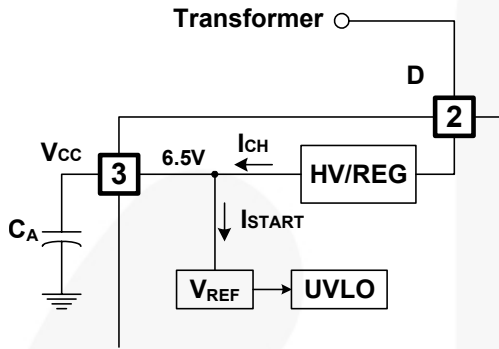
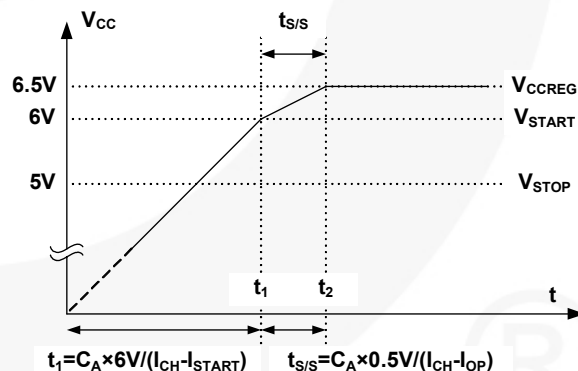

Figure 15. Startup Block
Figure 20. Soft-Start Function
**1. Startup and  $V_{CC}$  Regulation:** At startup, an internal high-voltage current source supplies the internal bias and charges the external capacitor ( $C_A$ ) connected to the  $V_{CC}$  pin, as illustrated in Figure 15. An internal high-voltage regulator (HV/REG) located between the D and  $V_{CC}$  pins regulates the  $V_{CC}$  to be 6.5V and supplies operating current. Therefore, FSQ500L needs no auxiliary bias winding.
**4. Soft-Start:** The soft-start time is tuned by an external  $V_{CC}$  capacitor ( $C_A$ ), which increases PWM comparator non-inverting input voltage together with the senseFET current slowly after it starts up. Before  $V_{CC}$  reaches  $V_{START}$ ,  $C_A$  is charged by the current  $I_{CH-ISTART}$ , where  $I_{CH}$  and  $I_{START}$  are described in Figure 15. After  $V_{CC}$  reaches  $V_{START}$ , all internal blocks are activated, so that the current consuming inside IC becomes  $I_{OP}$ . Therefore,  $C_A$  is charged by the current  $I_{CH-IOP}$ , which makes the increasing slope of  $V_{CC}$  become sluggish.  $V_{CC}$  is shifted by 6.0V negatively (it is performed in soft-start block in Figure 2), and then  $V_{CC} - 6.0V$  is an input of one of the input terminals of the PWM comparator. The drain current follows  $V_{CC} - 6.0V$  instead of the  $V_{FB}^*$  because of the low-dominant feature of the PWM comparator. The soft-start time can be made long or short by selecting  $C_A$ , as described in Figure 20. During  $t_{S/S}$ ,  $I_{DELAY}$  is disabled to avoid unwanted OLP. Typically,  $t_{S/S}$  is around 4.6ms with 27 $\mu$ F of  $C_A$ .